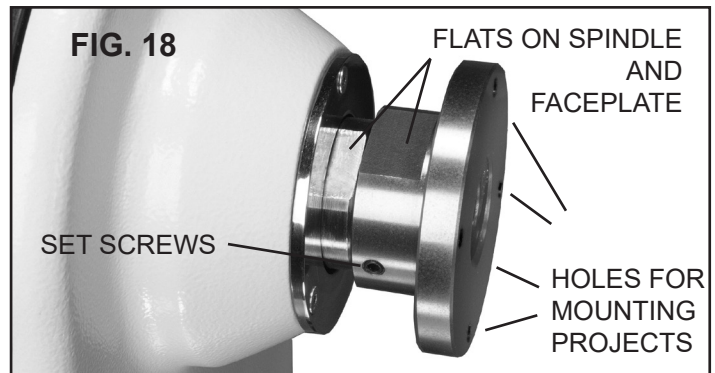

FIG. 19
To REMOVE the faceplate, first loosen the set screws. The spindle and rear hub of the faceplate each have flats that are for use with open end wrenches. FIG. 19. Next, use the 2 extra large, double ended wrenches (N) (38mm/46mm) for holding the spindle and also to hold the back hub of the faceplate for removal of the faceplate. Or use one wrench while using the Spindle Lock. Use the same process for removing a chuck.